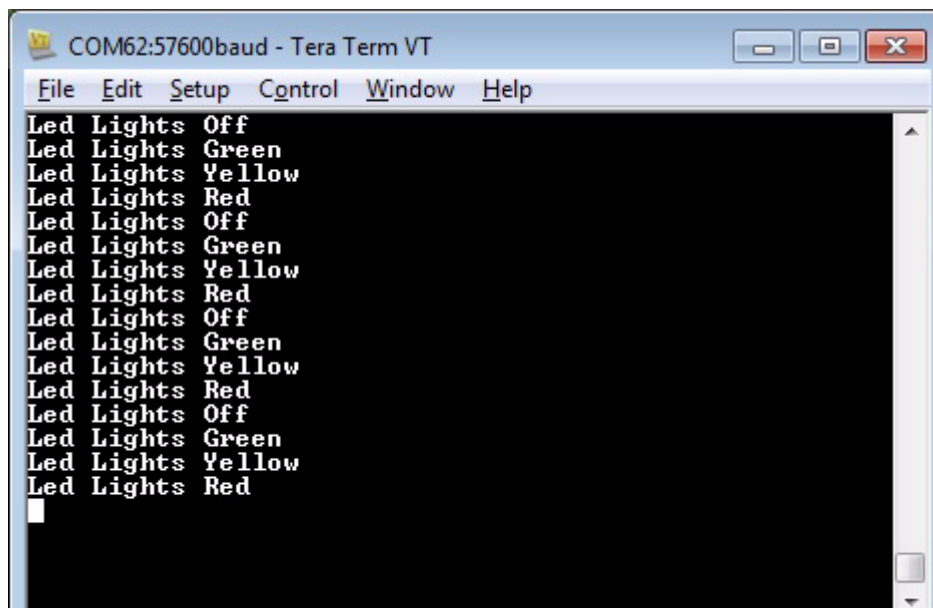

Figure 5. UART Output Using Terminal Application program
11. After the application has started, UART0 output should be visible in the terminal application program, as shown in Figure 5.
5. In HyperTerminal, click the **Call** button to connect to the F64XX Series Development Board. When connected, you should be able to see the demonstration program menu shown in Figure 5.
4. Click the **OK** button to connect to the F64XX Development Board. Upon connection, you should be able to see the demonstration program menu shown in Figure 5 on page 8.